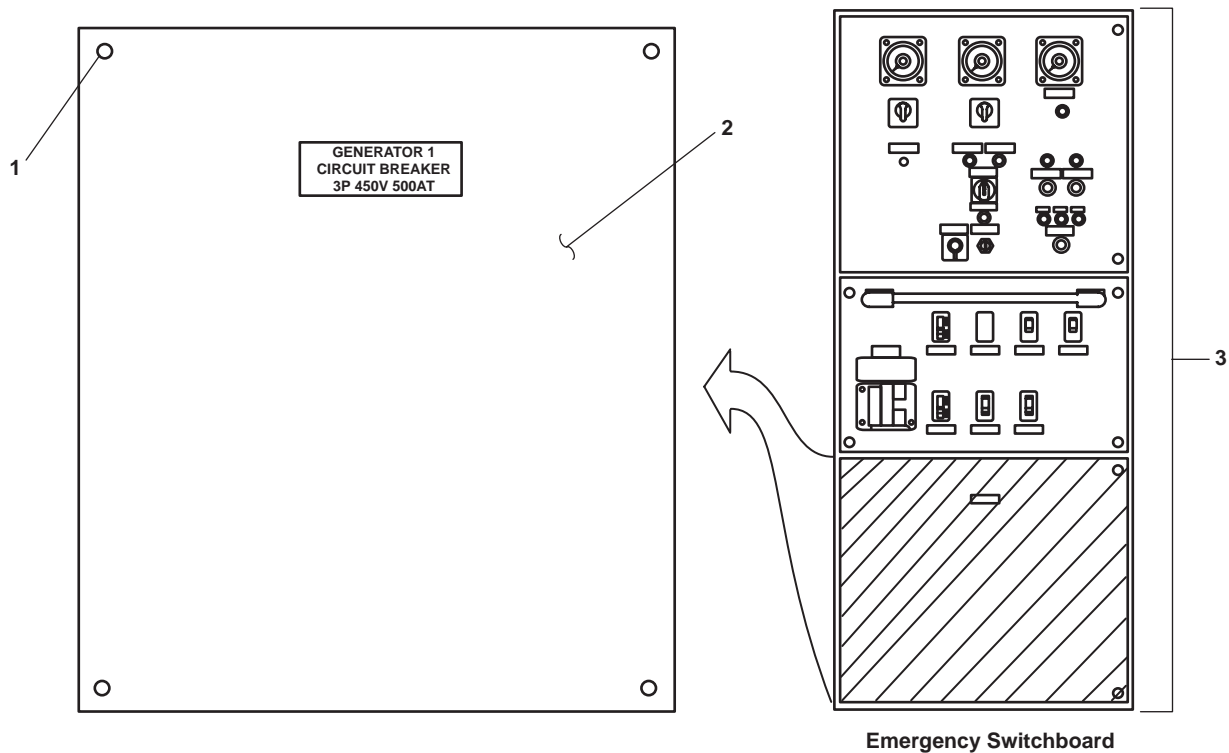

Figure 1. SSDG 1, SSDG 2, and EDG Circuit Breaker Front Panel (Typical)
1. Loosen the captive screws (figure 1, item 1) on the door panel (figure 1, item 2).
2. Remove the door panel (figure 1, item 2) from the emergency switchboard (figure 1, item 3).
7. Install the door panel (figure 1, item 2).
8. Secure the door panel (figure 1, item 2) by tightening the captive screws (figure 1, item 1).